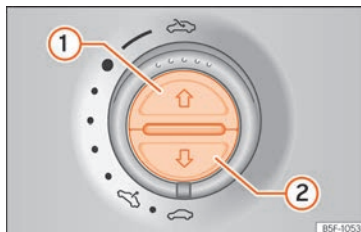

Fig. 149 On the interior roof lining: switches for the sun blind.
Opening completely (automatic function)	Press button » Fig. 149 ① briefly.
- The switch should be in the "closed position" »»  page 19 (1).
- *Panoramic sliding sunroof*: Within five seconds of triggering the anti-trap function, pull the control all the way back »»  page 19 (arrow (5)) until the panoramic sliding sunroof closes fully.
- *Sun blind*: Within five seconds of triggering the anti-trap function, press button »» Fig. 149 (2) until the sun blind closes fully.